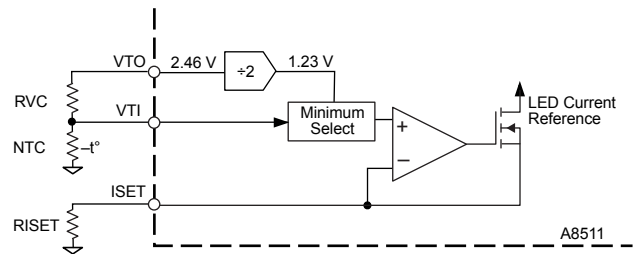

Figure 5. Thermal derating reference circuit
- Analog dimming using the VTI pin. External DC voltage can be applied to the VTI pin to control LED current. LED current varies as a function of voltage on the VTI pin. This configuration is shown in figure 5.
Thermal derating can be achieved by connecting an NTC thermistor between VTI and ground, as shown in figure 5. When the A8511 is enabled and $V_{TI} > 1.1$ V, 100% current for the LEDs is controlled by the ISET and DIM pins. When V_{TI} falls below 1.1 V, V_{ISET} starts to follow V_{TI} , resulting in I_{LEDX} varying proportionately with V_{TI} represented by the overlap of the dotted and solid curves. The proportion of I_{LED} to V_{TI} , when LED current is controlled through the VTI pin, is calculated as: